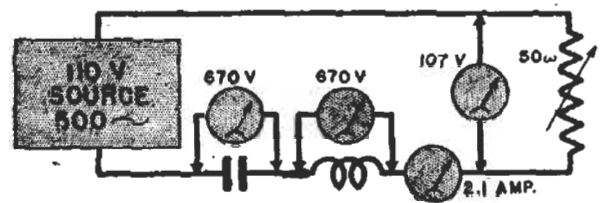

FIG. 3. The voltages measured here prove that the circuit current in a resonant circuit depends only on the circuit resistance.
**Reducing  $R$ .** Fig. 3 shows what happens if we reduce the size of the resistor in our resonant circuit. Here, the electrical sizes of the circuit components are the same as in Fig. 2, except that the ohmic value of the resistor is reduced from 120 to 50 ohms. The circuit current increases to 2.1 amperes—and the condenser and the coil voltages (the result of this current flow through their impedances) jump to 670 volts! This shows that the value of the resistance in a resonant circuit is very important in
determining the amount of current flowing. Notice, however, that less voltage appears across the resistor in the circuit of Fig. 3 than was across it in Fig. 2—107 volts for the former as against 109 volts for the latter. This difference is caused by the increased voltage drop across the resistance of the coil when the current is increased.